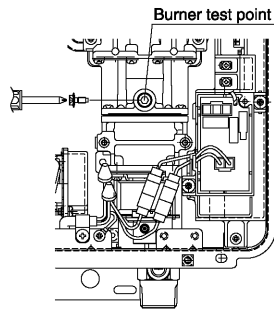

Fig. 2
- Attach pressure gauge to burner test point, located on the gas control. (Fig.2).